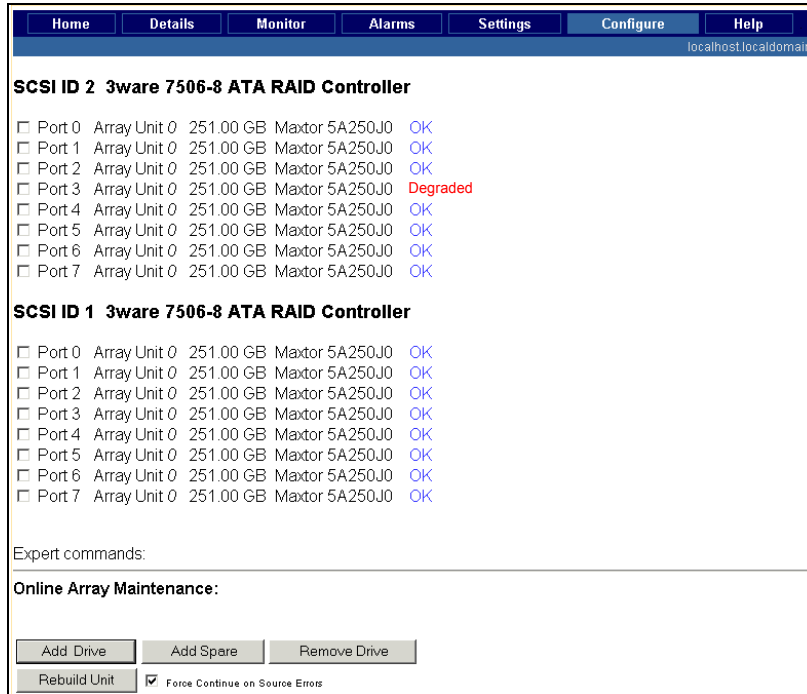

FIG. 45 Disk Management Utility - Configure page
4. Click on the **Configure** tab at the top of the screen to access the *Configure* page (FIG. 45) which lists all drives in each array and their status. If a drive has failed, it will be labeled “Degraded” rather than “OK”.
4. Click on the **Configure** tab at the top of the screen to access the *Configure* page (FIG. 45) which lists all drives in each array and their status. If a drive has failed, it will be indicated on this page (labeled "Degraded" rather than "OK").